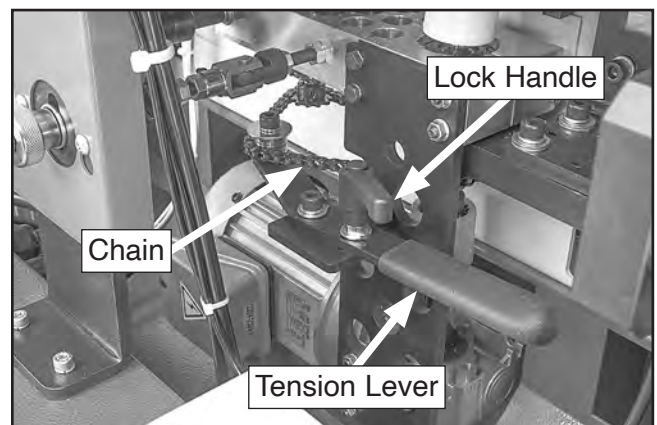

Figure 93. Location of glue pot chain tension lever and lock handle.
5. Loosen chain tension lock handle shown in **Figure 93**, pull tension lever out until chain is loose, then remove chain.